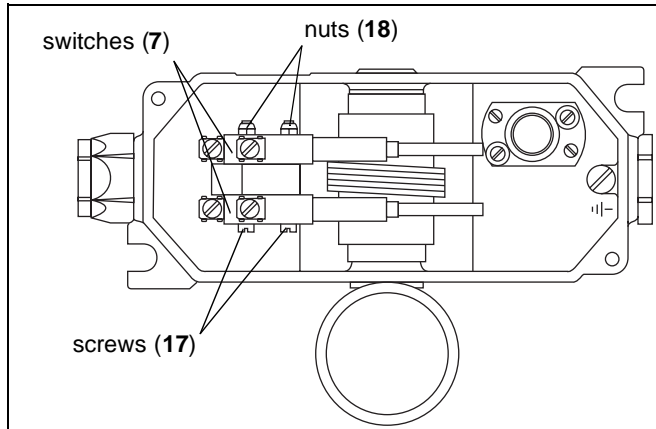

Fig. 7-2: Exchanging the switches
3. Exchange the switches (7) by loosening both nuts (18) with a socket wrench SW 5.5 and pulling out the screws (17) (see Fig. 7-2).
4. Mount the new switches (7) on the support (16) by putting new screws (17) M 3 x 35 through the mounting holes of the first switch (7).
5. Put the screws (17) through the support (16) and place the second switch (7).
6. Fasten the switches (7) with new locknuts (18) M 3.